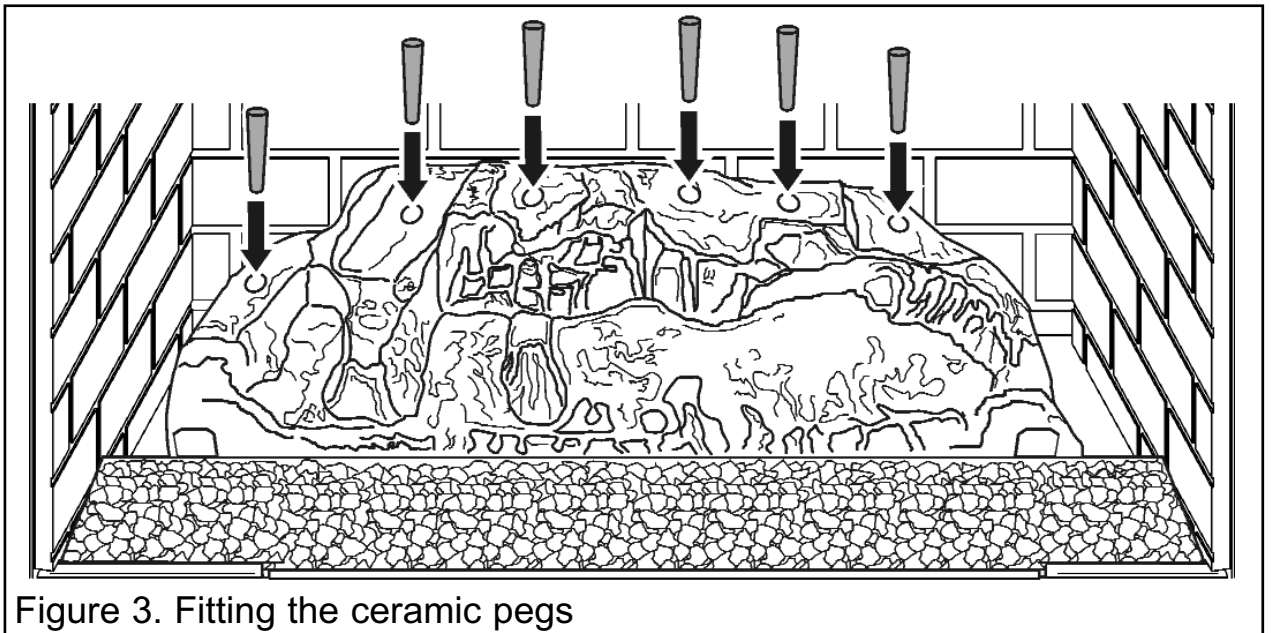

Figure 3. Fitting the ceramic pegs
3. Supplied with the fuel effect are six ceramic pegs. Locate these into the holes in the fuel effect base as in figure 3.